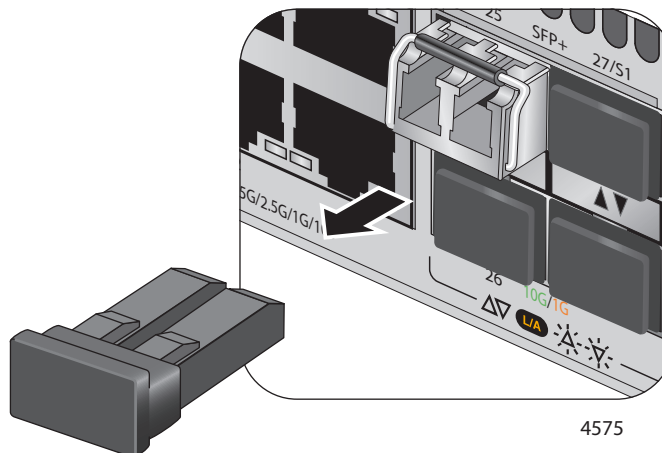

Figure 46. Removing the Dust Cover from an SFP or SFP+ Transceiver
6. Remove the dust cover from the transceiver, as shown in Figure 46.